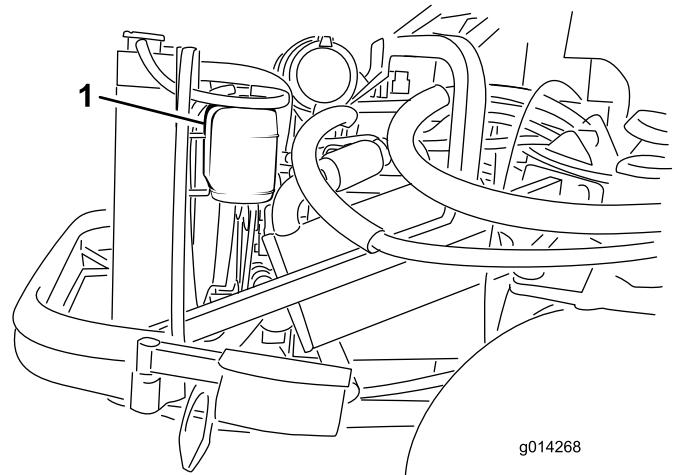

Figure 45
1. Check the level of the coolant in the expansion tank (Figure 45). The coolant level should be between the marks on the side of the tank.